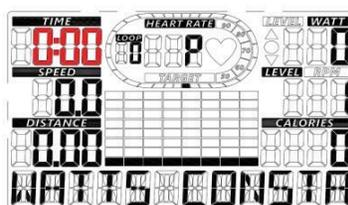

Fig. 26
- To set time, press UP (▲)/DOWN (▼) buttons (Fig. 26). When finish, press “SET” button to confirm and then press “START” to begin the workout.